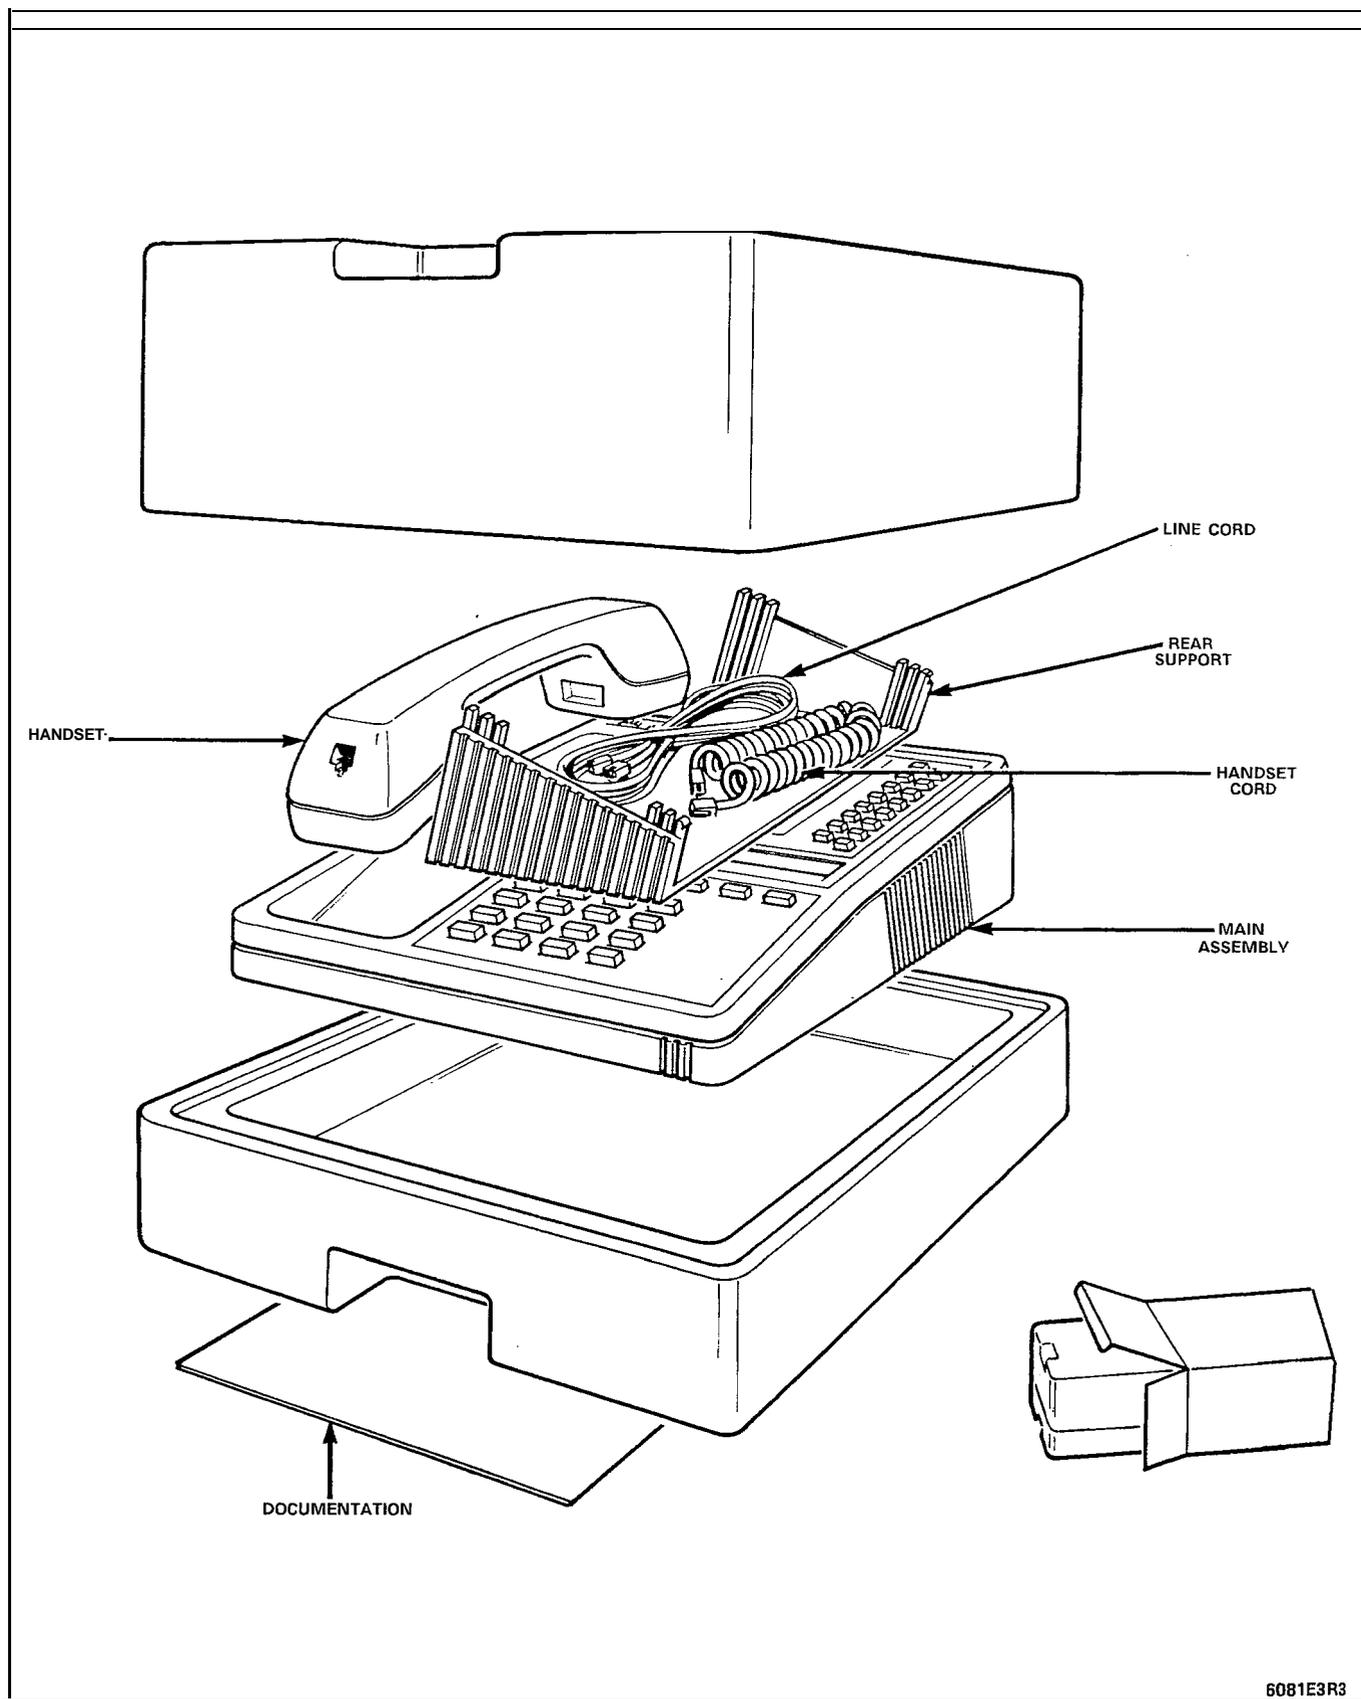

Figure 5-1 SUPERSET 4 Telephone and Packaging
- 5.01 The *SUPERSET* 4 telephone is shipped in a single carton, as shown in Figure 5-1.